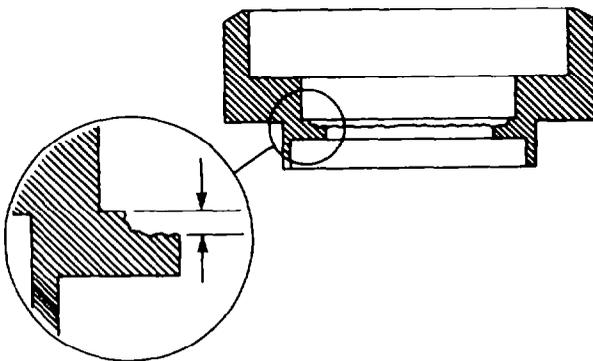

Figure 98 — Measuring Spring Retainer
- au. Using a suitable depth gauge measure the spring retainer for wear as shown in Fig. 98. If wear exceeds 0.076 mm (0.003 in.) replace the spring retainer.